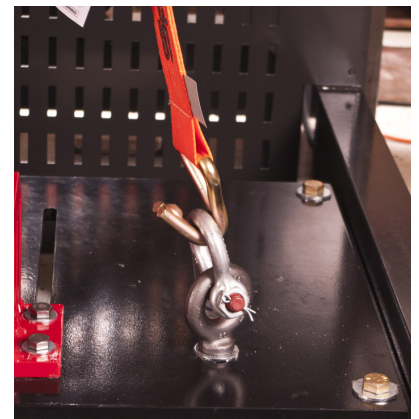

Figure 4
13. Secure the Eyebolts in the outer set of slots on the Tube Sheet Support Table with the 171K Nuts, and 549-27 Washers included in the box labeled "Tube Sheet Support Table Hardware". Attach Shackles to the Eyebolts. The Ratchet Strap can be utilized by attaching it to the Shackles with the J-hooks (Figure 4).